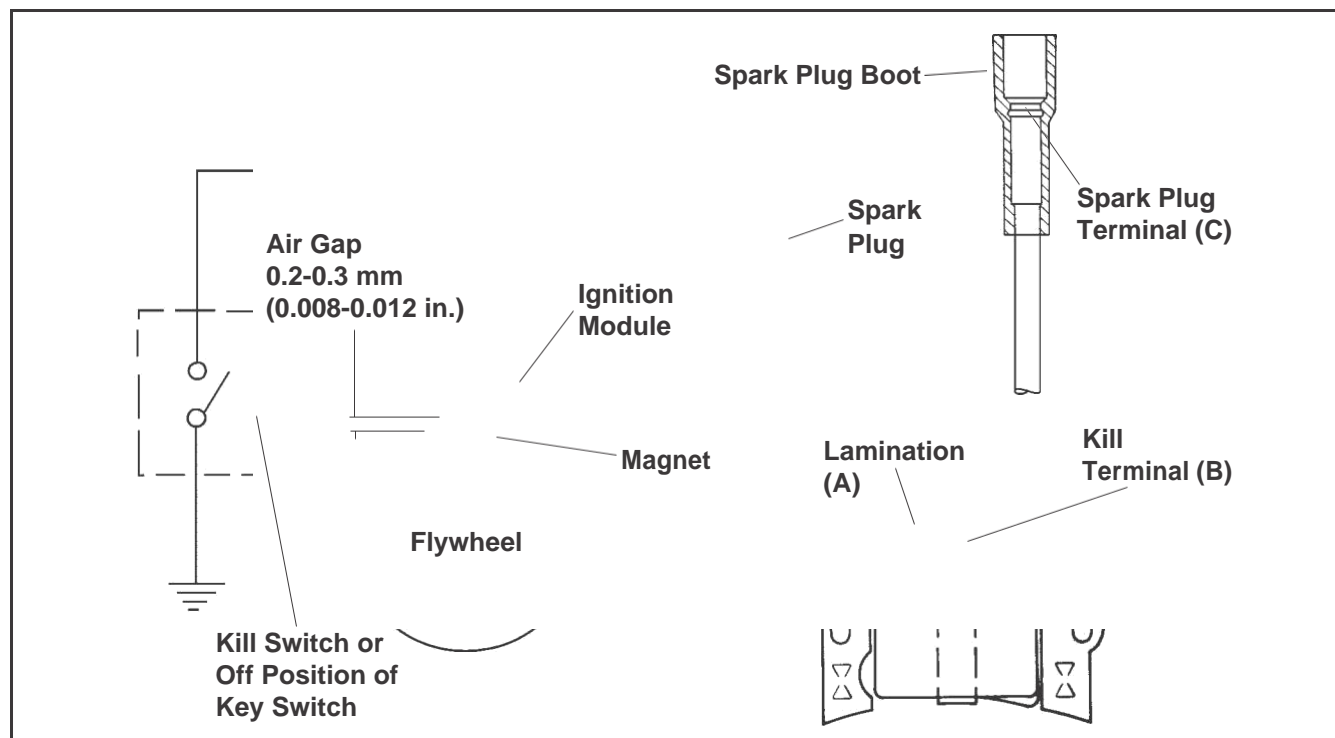

Figure 8-3. Electronic Magneto Ignition System, CH11-15 Engines.
4. Measure the resistance of module secondary using an ohmmeter (see Figures 8-3 and 8-4): Connect one ohmmeter lead to laminations (A). Connect the other lead to the spark plug terminal of high-tension lead (C). With ohmmeter leads connected in this manner, the resistance of secondary should be 7,900 to 18,400 ohms .	4. If the resistance is low or 0 ohms , the module secondary is shorted. Replace the module. If the resistance is high or infinity ohms , the module secondary is open. Replace the module. If the resistance is within the specified range, the module secondary is OK.